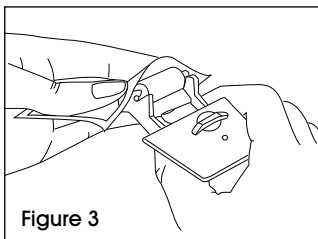

Figure 3
3. Cut off end of ink roller package. Using package to protect fingers, slide carrier into package and snap new ink roller into place. (See Figure 3)